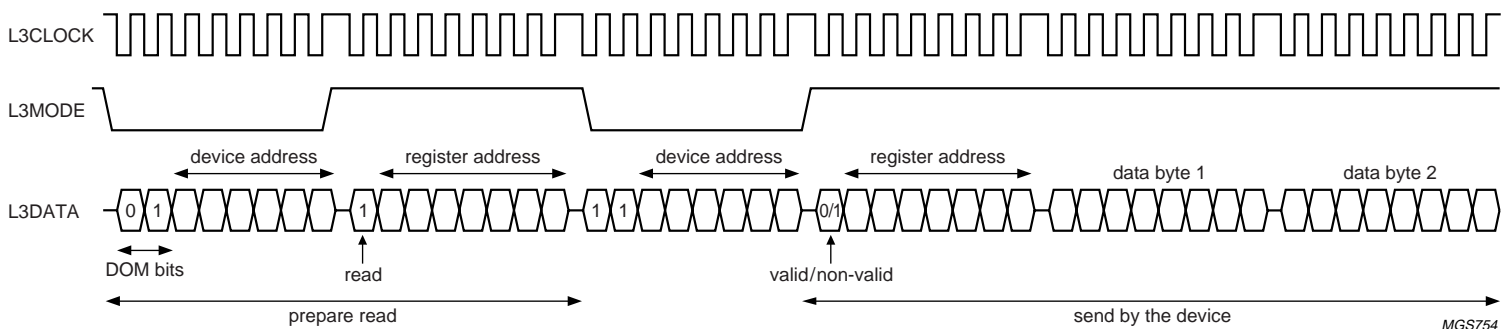

Fig.7 Data read mode.
2. Addressing for prepare read: bit 0 is logic 1 indicating that data will be read from the register (see Fig.7)
For reading data from the device, first a prepare read must be done and then data read. The data read mode is explained in the signal diagram of Fig.7.